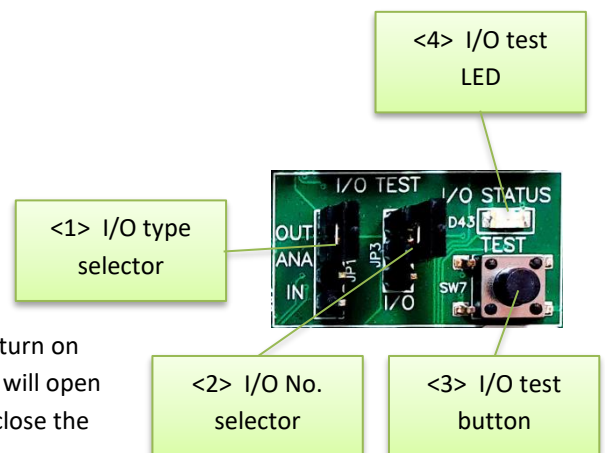

Figure 10
- a. Move the I/O TYPE SELECTOR (Figure 10 <1>) to the upper position.
- b. Use the I/O No. SELECTOR (Figure 10 <2>) to select the desired output. UP=1; DOWN=2.
- c. Push the I/O TEST BUTTON (Figure 10 <3>). First push will turn on the I/O TEST LED (Figure 10 <4>), the PWR and NED LEDs, will open the output and will sound a single beep. Second push will close the output and will sound a double beep.
- a. Move the I/O TYPE SELECTOR (Figure 10 <1>) to the lowest position.
- b. Use the I/O No. SELECTOR (Figure 10 <2>) to select the desired input. UP=1; DOWN=2.
- c. Push the I/O TEST BUTTON (Figure 10 <3>) the PWR and NED LEDs will turn on.
- d. Make a short circuit at the selected input. It will turn on the I/O TEST LED (Figure 10 <4>) and make a single beep. Remove the short circuit and the I/O TEST LED will turn off and it will sound a double beep.
- a. Move the I/O TYPE SELECTOR (Figure 10 <1>) to the mid position.
- d. Apply a voltage of ..... at the selected input. It will turn on the the I/O TEST LED (Figure 10 <4>) and make a single beep. Remove the applied voltage and the I/O TEST LED will turn off and it will sound a double beep.